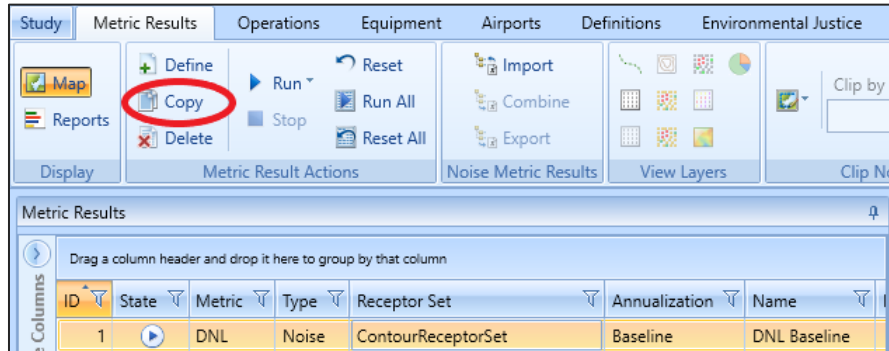

Figure 33. Copy Metric Result
1. Click on the Baseline metric result, and click *Copy* from the *Metric Results Actions* ribbon group (Figure 33).